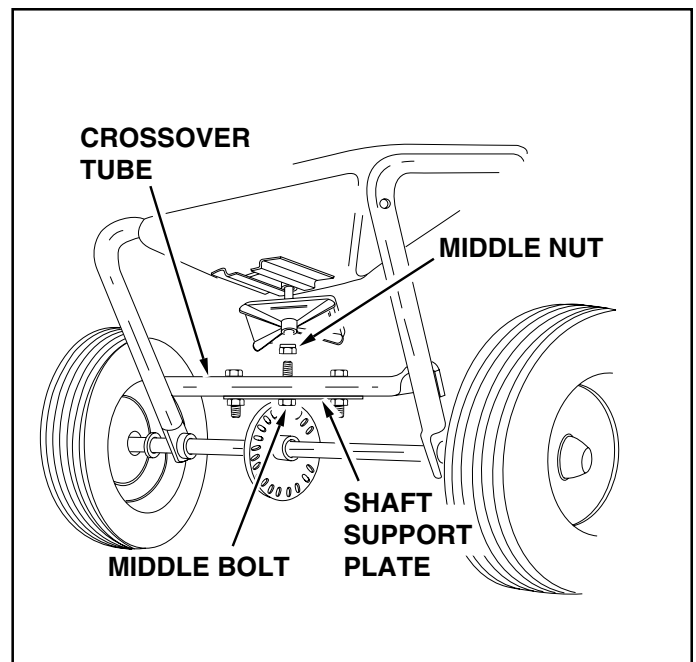

FIGURE 4
- 8. Remove the nut from the middle bolt in the crossover tube. See figure 4.
- Place the long handle tube onto the crossover tube on the **side opposite** from the shaft support plate. Fasten with the bolt, washer and nut removed in the previous step. See figures 4 and 5. **Do not tighten at this time.**